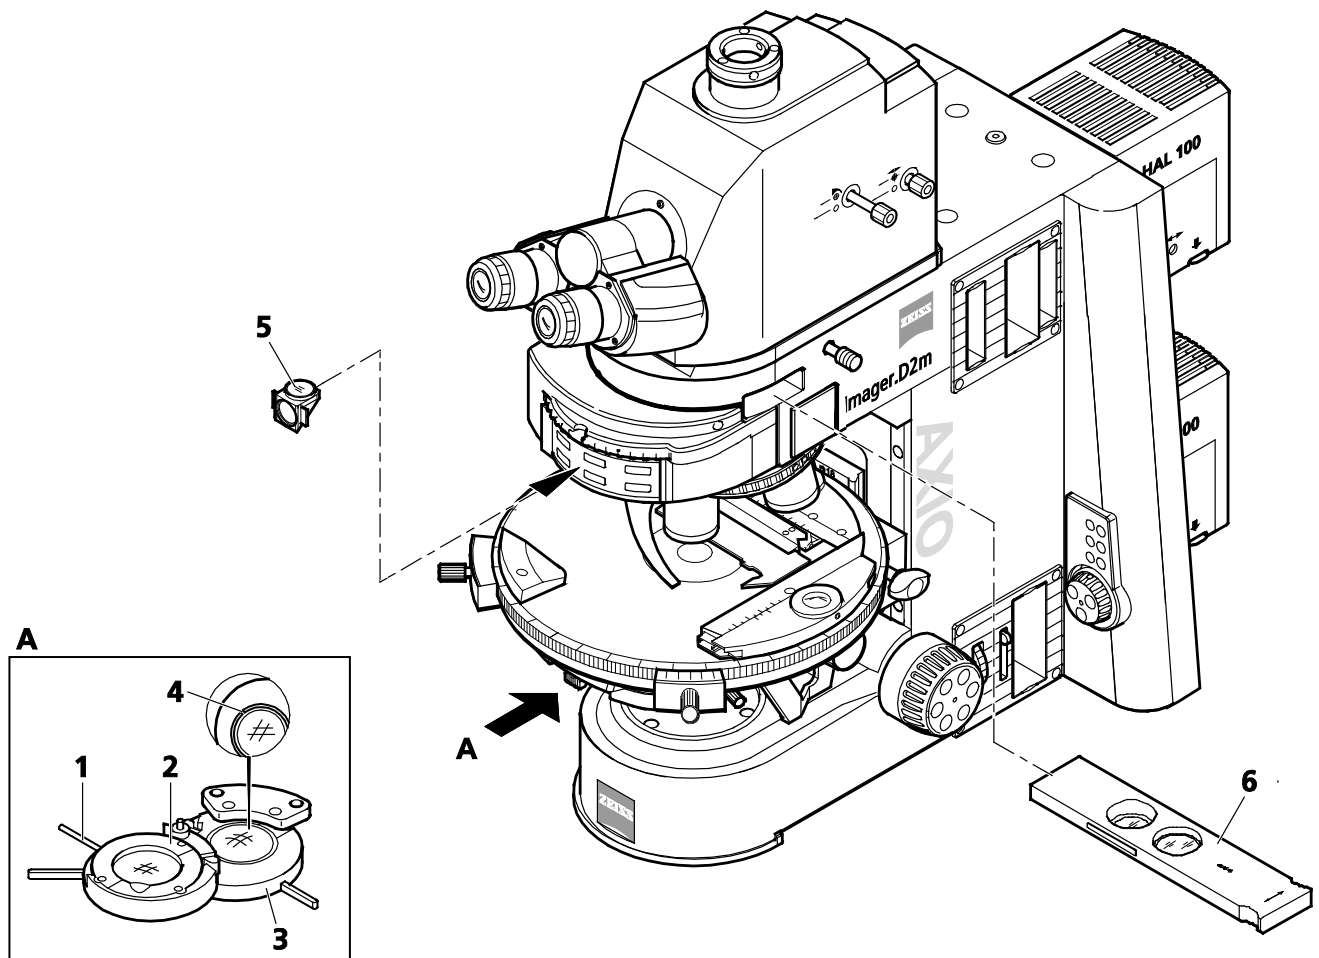

Fig. 202 Components for circular polarization contrast
(3) Setting the microscope
- Set the microscope as for transmitted-light brightfield according to KÖHLER (see Section 4.12.1 (3)).
- Push the analyzer slider (Fig. 202/6) into the light path.
- Install the circular polarizer D (see Section 3.38), and insert reflector module $\lambda/4$, ACR, P&C (Fig. 202/5) in the reflector turret.
- Swivel the bottom part of the circular polarizer D (Fig. 202/3) into the light path up to the click stop and, at full light intensity, assess the extinction (darkening) of the field of view without specimen.
If the extinction is not optimal, correct the position of the vibration direction by slightly and sensitively turning the polarizer mount (use the adjusting slots (Fig. 202/4) on the bottom of the polarizer for this) until maximum extinction is obtained. Normally, however, this will not be necessary, as the position of the vibration direction of the polarizer is factory-adjusted.
- Then, swivel the top part of the circular polarizer D (Fig. 202/2) into the light path.
- Rotate the lever of the $\lambda/4$ plate of the circular polarizer D (Fig. 202/1) until maximum extinction is obtained (dark-gray field of view) (lever points 45° to the right).
The effect of the $\lambda/4$ plate (Fig. 202/2) can be cancelled either by swiveling it out of the light path or turning it with lever (Fig. 202/1) into one of its two click-stop positions.